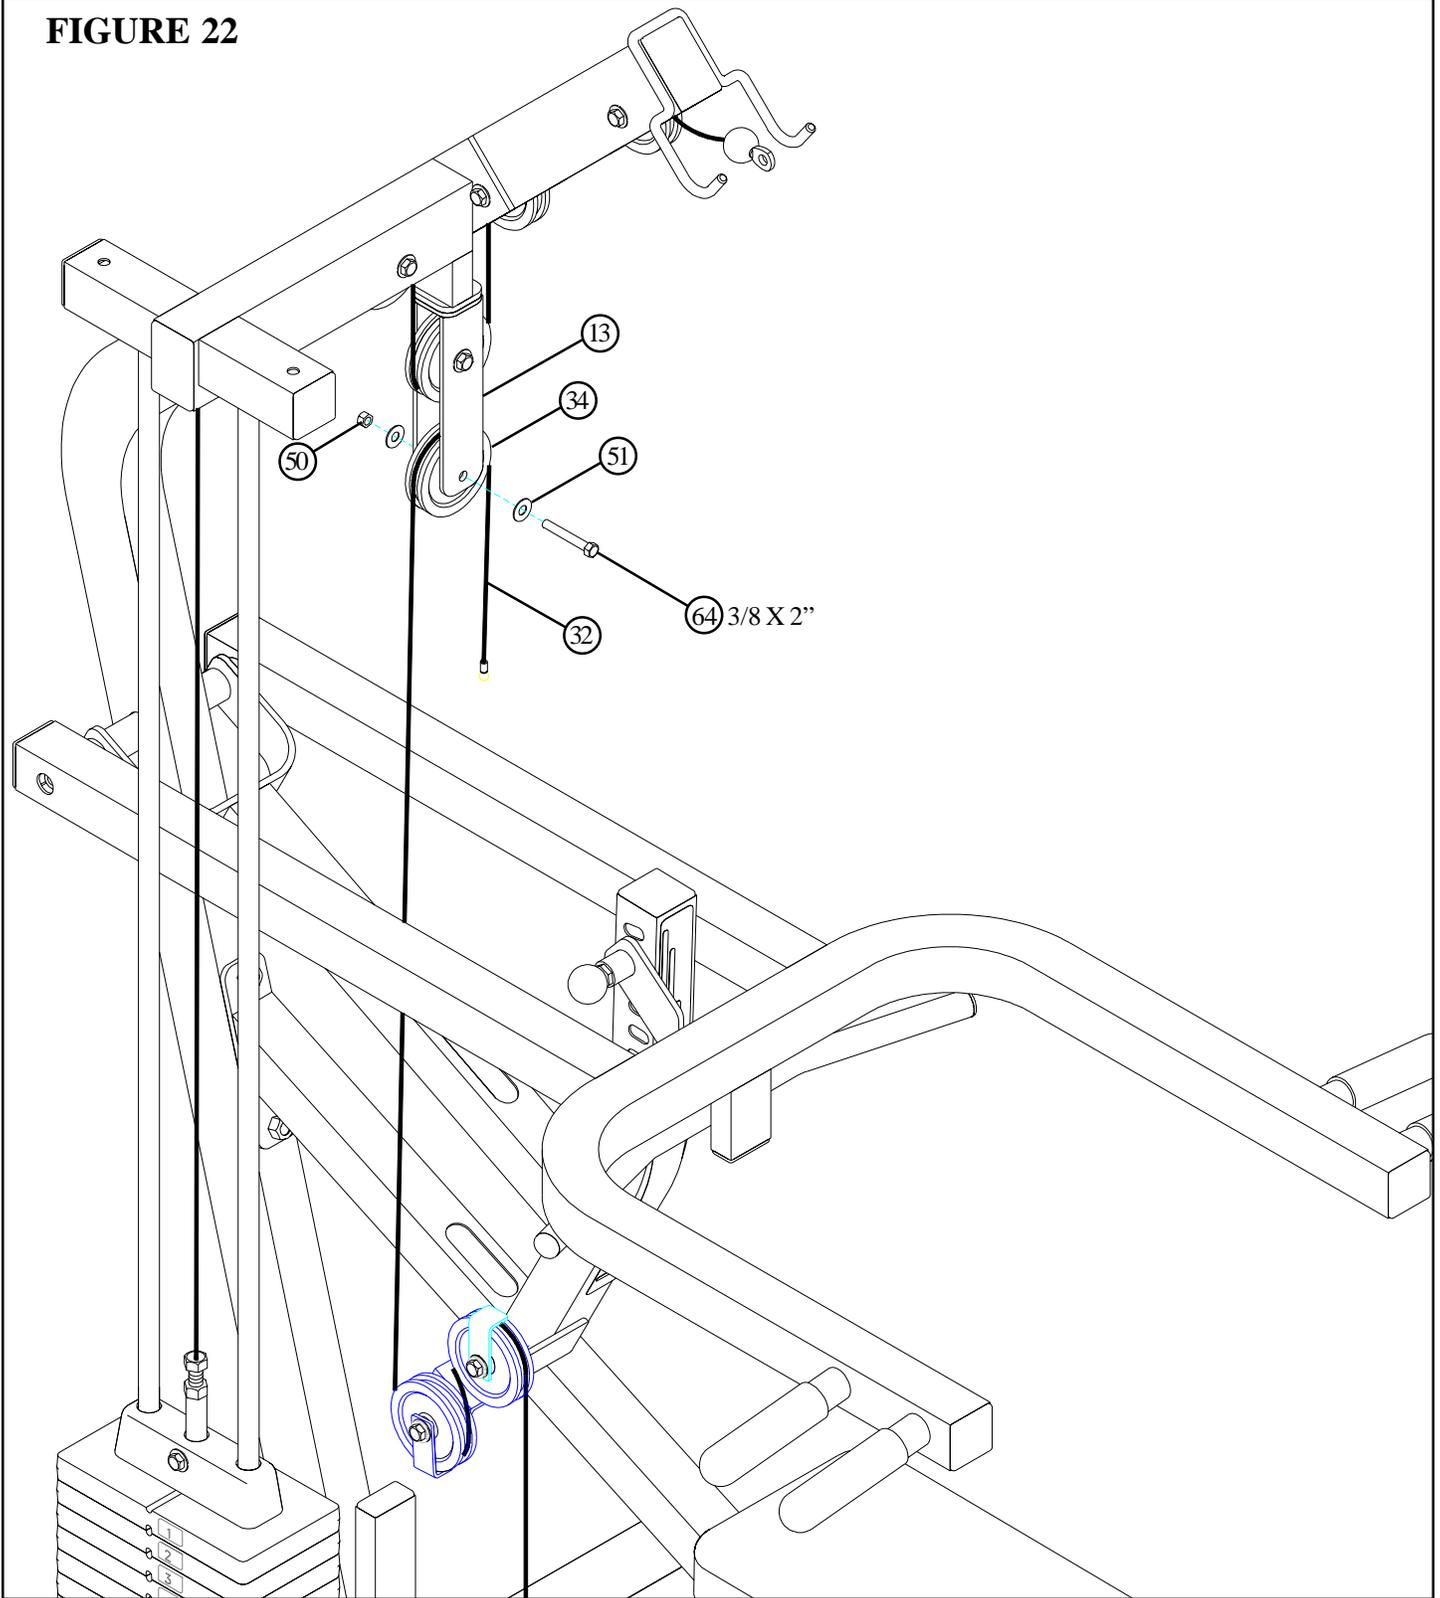

**FIGURE 21**
- **SECURELY** assemble one 3-1/2" PULLEY (34) to the angle on the PRESS ARM ADJUST (7) using one 3/8 X 2" BOLT (64), one 3/8" WASHER (51), one 2-3/8" CABLE RETAINING CLIP (49), one 3/8" LOCK WASHER (52) and one 3/8" LOCK NUT (50) as shown in FIGURE 21.
- **SECURELY** assemble one 3-1/2" PULLEY (34) to the angle on the BENCH FRAME (2) using one 3/8 X 2" BOLT (64), one 3/8" WASHER (51), one 2-3/8" CABLE RETAINING CLIP (49), one 3/8" LOCK WASHER (52) and one 3/8" LOCK NUT (50) as shown in FIGURE 21. **(Position Pulley so that the Bolt is in the middle of the slot.)**
- Route the SECONDARY CABLE (32) around the pulleys and retaining clips. **(NOTE: The bolt holding pulley and retaining clip may need to be loosened to align cable retaining clip with cable.)**